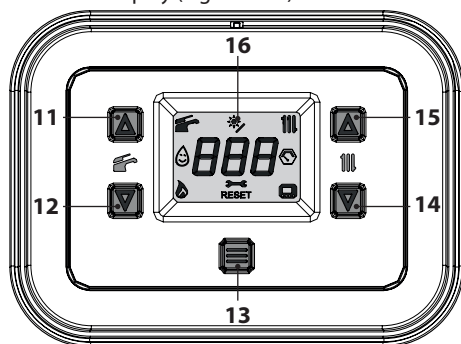
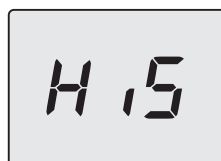
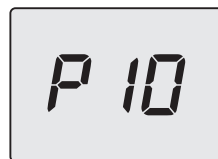
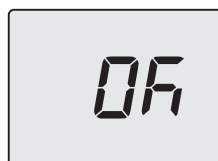

Figure 5.71
Figure 5.72
Figure 5.75
Figure 5.76
- Enter "programming mode" by pressing the 12 and 14 keys simultaneously for 5 seconds (Figure 5.71) until **His** (Boiler History) appears on the LCD display (Figure 5.72).
- Press the 13 key for 1 second (Figure 5.71) to enter the selected parameter. The display will show the following (6=60 seconds) (Figure 5.75).
- Press button 13 (Figure 5.71) to confirm the value entered. The display will show the following (Figure 5.76) for 5 seconds, then move up to the next level.
- press the 12 and 14 keys simultaneously for 5 seconds (Figure 5.71) (return to previous level).